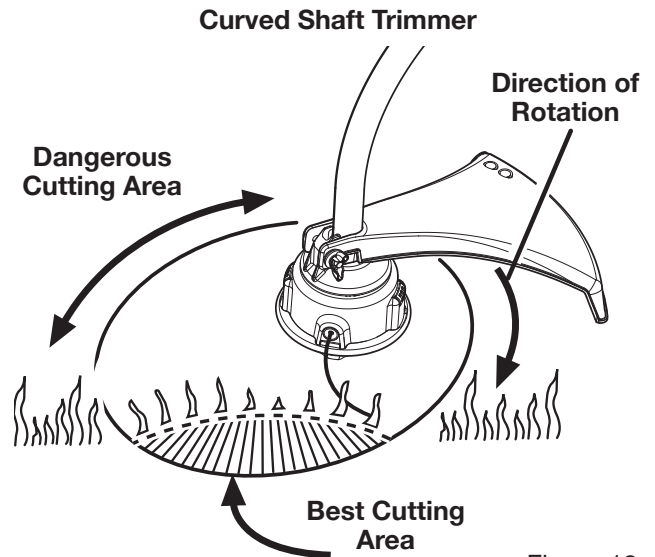

Figure 12
See Figures 12 - 13.
3. The curved shaft trimmer cuts when passing the unit from right to left. The straight shaft trimmer cuts when passing the unit from left to right. This will avoid throwing debris at the operator. Avoid cutting in the dangerous area shown in figures 12 and 13.